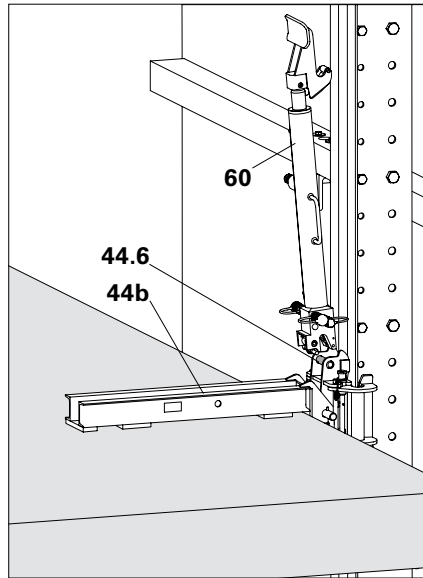

Fig. D4.02
2. Position the Climbing Device RCS (60) on the Bolts (44.6) of the middle Climbing Shoe (44b) and engage. The Climbing Device is pressed against the Climbing Rail through spring force. Guide the claw into the Climbing Rail. (Fig. D4.02 + D4.02a)